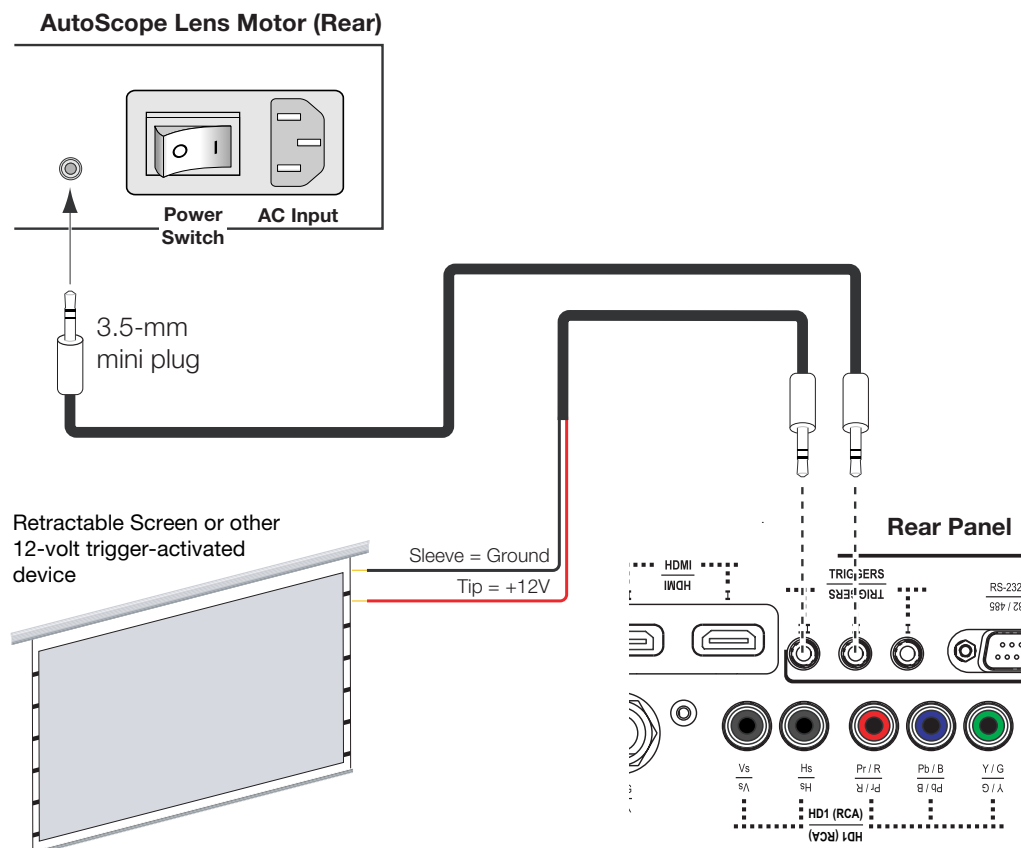

Figure 3-16. 12-volt Trigger Output Connections
If your Vision 110 is equipped with a CineWide with AutoScope system, connect the AutoScope lens motor to a 12-volt trigger output on the Vision 110; see Figure 3-16.
2. If this is an AutoScope-equipped projector, turn on the main power switch at the rear of the AutoScope lens motor. The lens motor power switch is located next to the AC input (see Figure 3-16).